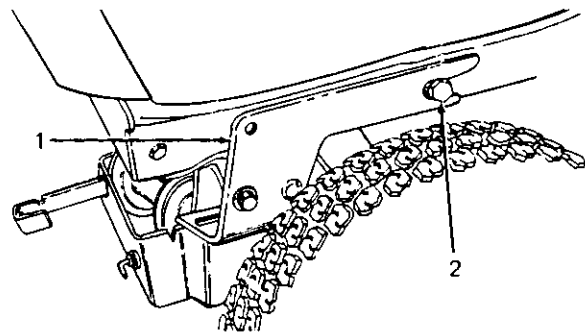

Figure 9
4. Lift the front of the lift frame assembly and push the front hangers against the shoulder bolts. Refer to Figure 9.